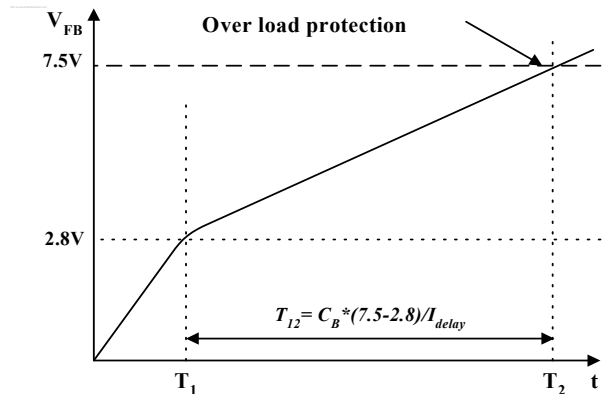

Figure 8. Over load protection
**3.1 Over Load Protection (OLP) :** Overload is defined as the load current exceeding its normal level due to an unexpected abnormal event. In this situation, the protection circuit should trigger in order to protect the SMPS. However, even when the SMPS is in the normal operation, the over load protection circuit can be triggered during the load transition. In order to avoid this undesired operation, the over load protection circuit is designed to trigger after a specified time to determine whether it is a transient situation or an overload situation. Because of the pulse-by-pulse current limit capability, the maximum peak current through the SenseFET is limited, and therefore the maximum input power is restricted with a given input voltage. If the output consumes more than this maximum power, the output voltage (Vo) decreases below the set voltage. This reduces the current through the opto-coupler LED, which also reduces the opto-coupler transistor current, thus increasing the feedback voltage (Vfb). If Vfb exceeds 2.8V, D1 is blocked and the 5uA current source starts to charge CB slowly up to Vcc. In this condition, Vfb continues increasing until it reaches 7.5V, when the switching operation is terminated as shown in Figure 8. The delay time for shutdown is the time required to charge CB from 2.8V to 7.5V with 5uA. In general, a 20 ~ 50 ms delay time is typical for most applications. This protection is implemented in auto restart mode.